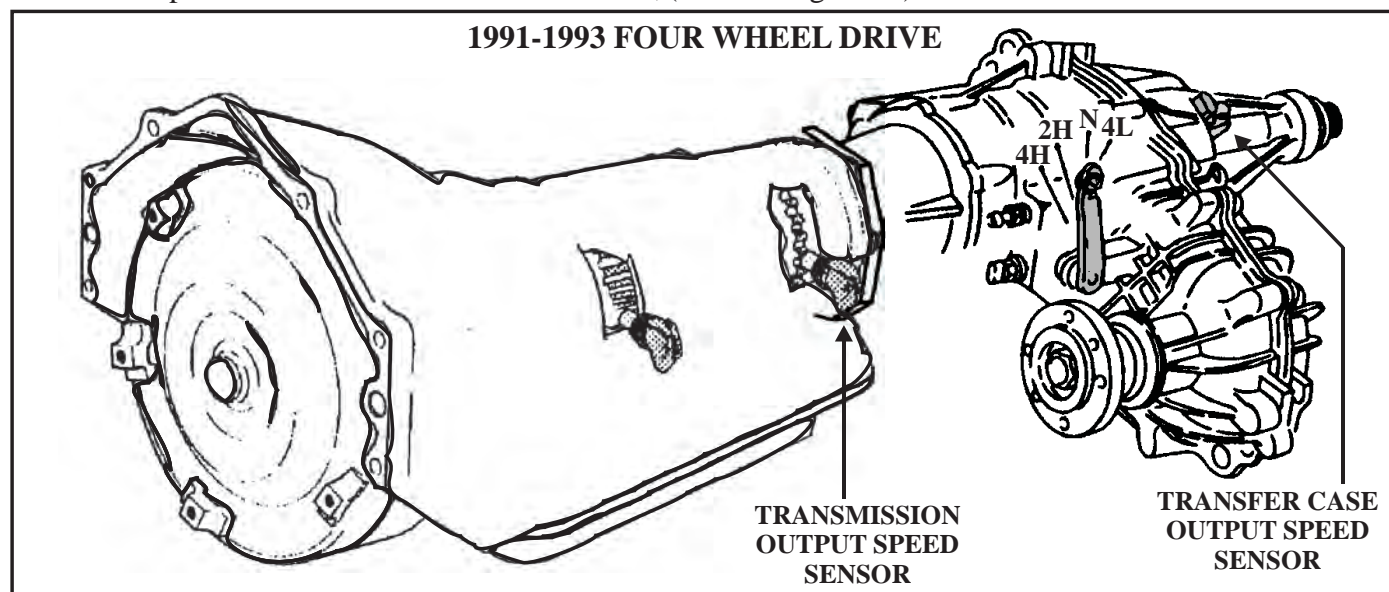

Figure 57
•1991 to 1993 four wheel drive trucks use two output speed sensors, one in the rear of the transmission case, and one in the transfer case. When the transfer case is in 2WD or 4W HI, the signal from both speed sensors should be the same. The PCM/TCM internal buffer signal is constantly being compared to the external buffer signal on circuit 437, (Speedometer contained DRAC on 1991 "K" trucks only). Once the transfer case is shifted to 4W LO, the output shaft speed sensor signal is now higher than the transfer case output speed sensor. At this time the PCM/TCM will adjust for shift timing and speedometer accuracy. It is the output shaft speed sensor that is responsible for shifting the transmission in 2WD and 4W HI. In 4W LO, it is the transfer case output speed sensor that shifts the transmission, (Refer to Figure 57).